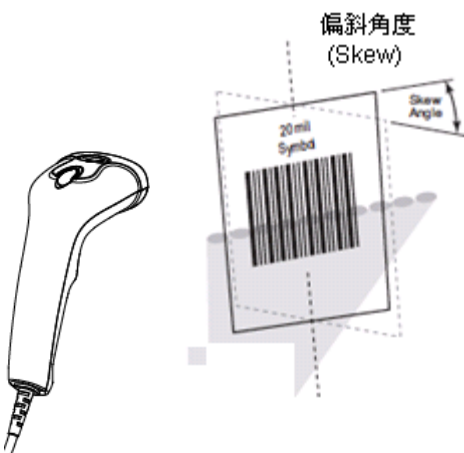

Fig. 1-9
- ✧ Skew: $\pm 60^\circ$, 0° Roll and 0° Pitch (Fig. 1-9)